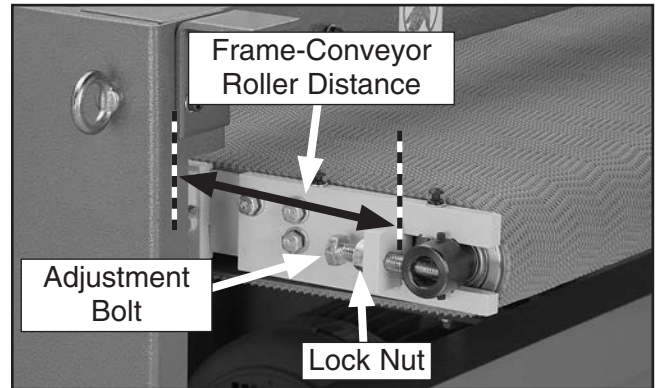

Figure 51. One side of conveyor tensioning & tracking controls (guard removed for clarity).
1. Using a 19mm wrench, loosen the lock nut (see **Figure 51**) on both sides of the conveyor.